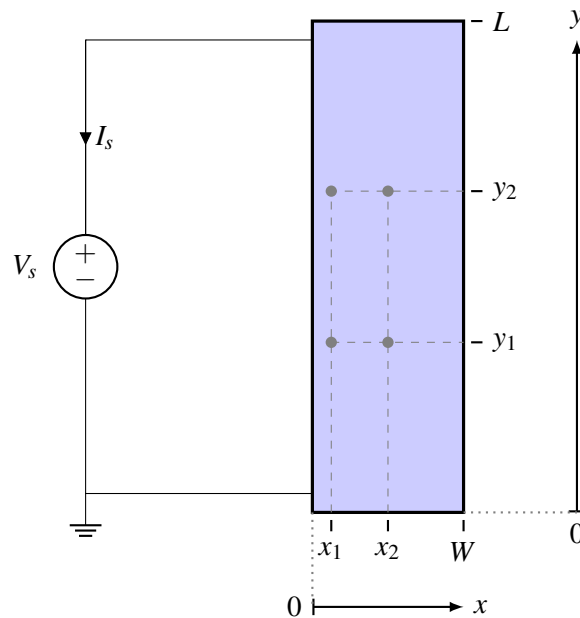
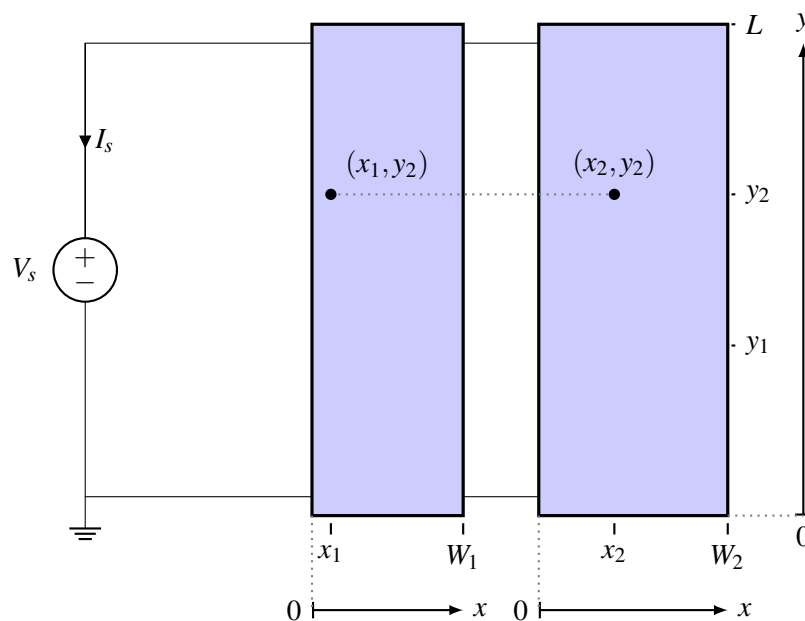

Figure 2: Top view of resistive touchscreen (not to scale). z axis i.e. the thickness not shown (into the page).
Figure 5: Top view of two touchscreens wired in parallel (not to scale). z axis not shown (into the page).
Figure 2 shows the top view of a resistive touchscreen consisting of a conductive layer with resistivity ρ_1 , thickness t , width W , and length L . At the top and bottom it is connected through perfect conductors ($\rho = 0$) to the rest of the circuit. The touchscreen is wired to voltage source V_s .
- Draw a circuit diagram representing **Figure 2**, where the entire touchscreen is represented as a *single resistor*. **Note that no touch is occurring in this scenario.** Remember that circuit diagrams in general consist of only circuit elements (resistors, sources, etc) represented by symbols, connecting wires, and the reference/ ground symbol. Calculate the value of current I_s based on the circuit diagram you drew. Do not forget to specify the correct unit as always, and double check the direction of I_s !
- (f) **Figure 5** shows a new arrangement with two touchscreens. The two touchscreens are next to each other and are connected to the voltage source in the same way. The second touchscreen (the one on the right) is identical to the one shown in Figure 2, except for different width, W_2 , and resistivity, ρ_2 . Use the following numerical values in your calculations: $W_1 = 50$ mm, $L = 80$ mm, $t = 1$ mm, $\rho_1 = 2 \Omega\text{m}$, $V_s = 10\text{V}$, $x_1 = 20$ mm, $x_2 = 45$ mm, $y_1 = 30$ mm, $y_2 = 60$ mm, which are the same values as before. The new touchscreen has the following numerical values which are different: $W_2 = 85$ mm, $\rho_2 = 1.5 \Omega\text{m}$. Draw a circuit diagram representing **Figure 5**, where the two touchscreens are represented as *two separate resistors*. **Note that no touch is occurring in this scenario.**
- (h) Consider the two points: (x_1, y_2) in the touchscreen on the left, and (x_2, y_2) in the touchscreen on the right in **Figure 5**. Show that the node voltage at (x_1, y_2) is the same that at (x_2, y_2) , i.e. the potential difference between the two points is 0. You can show this without explicitly calculating the node voltages at the two points.